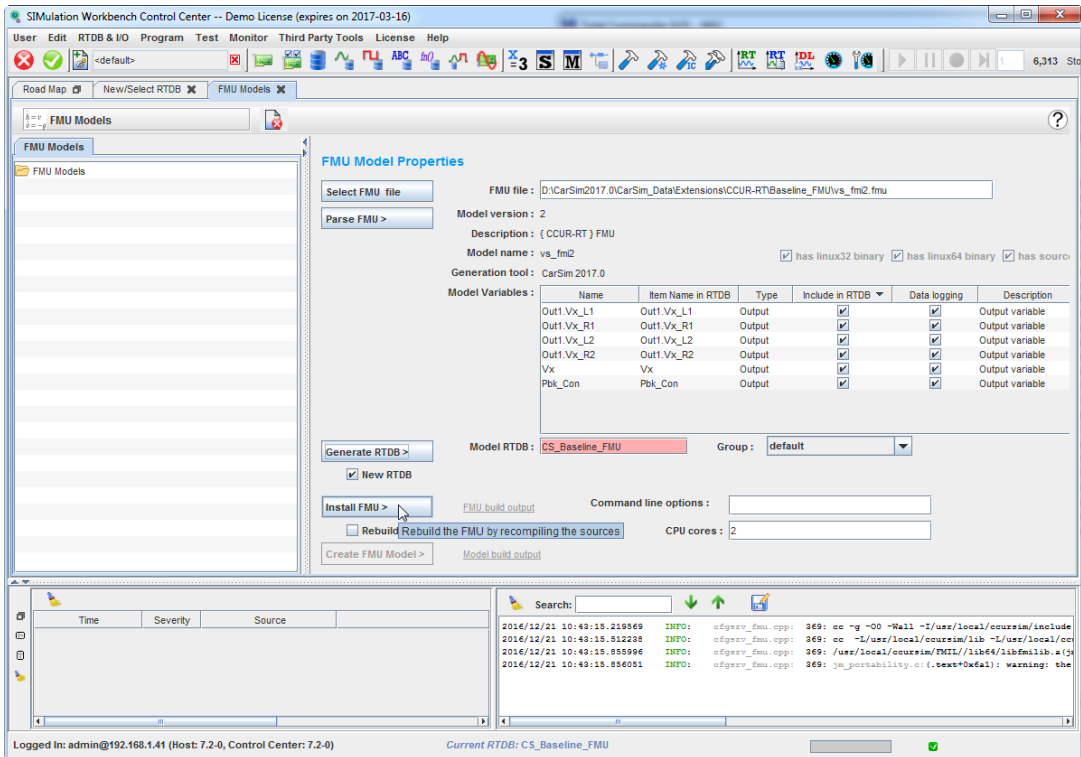
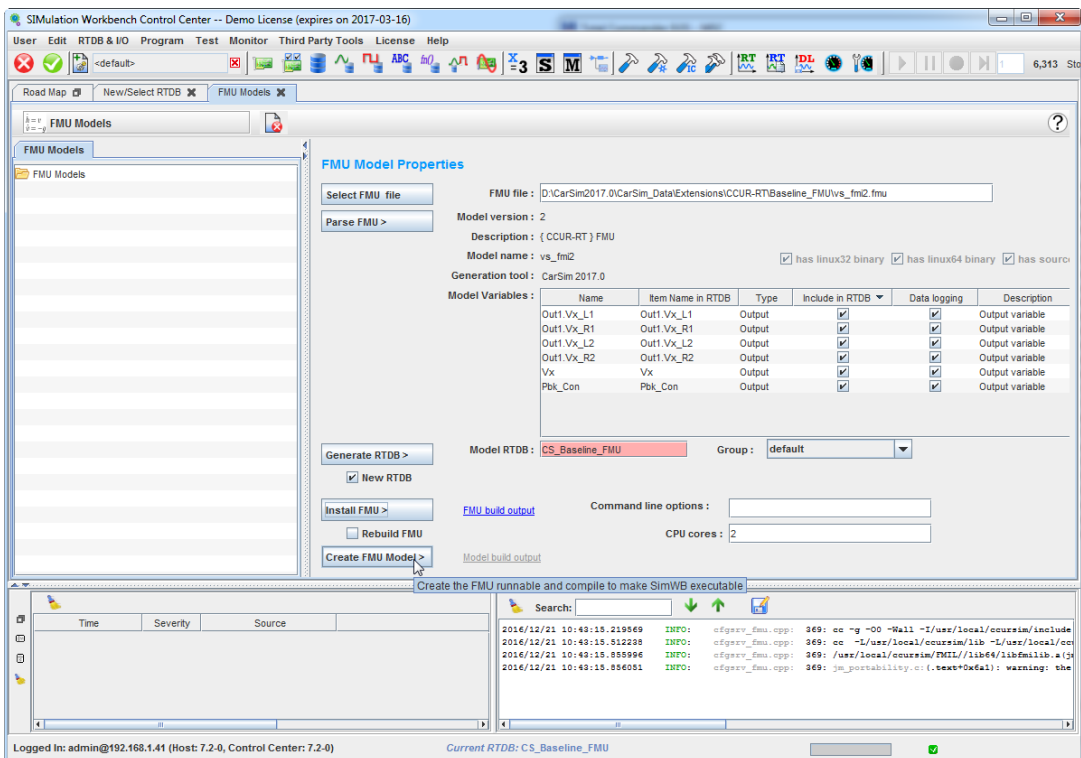
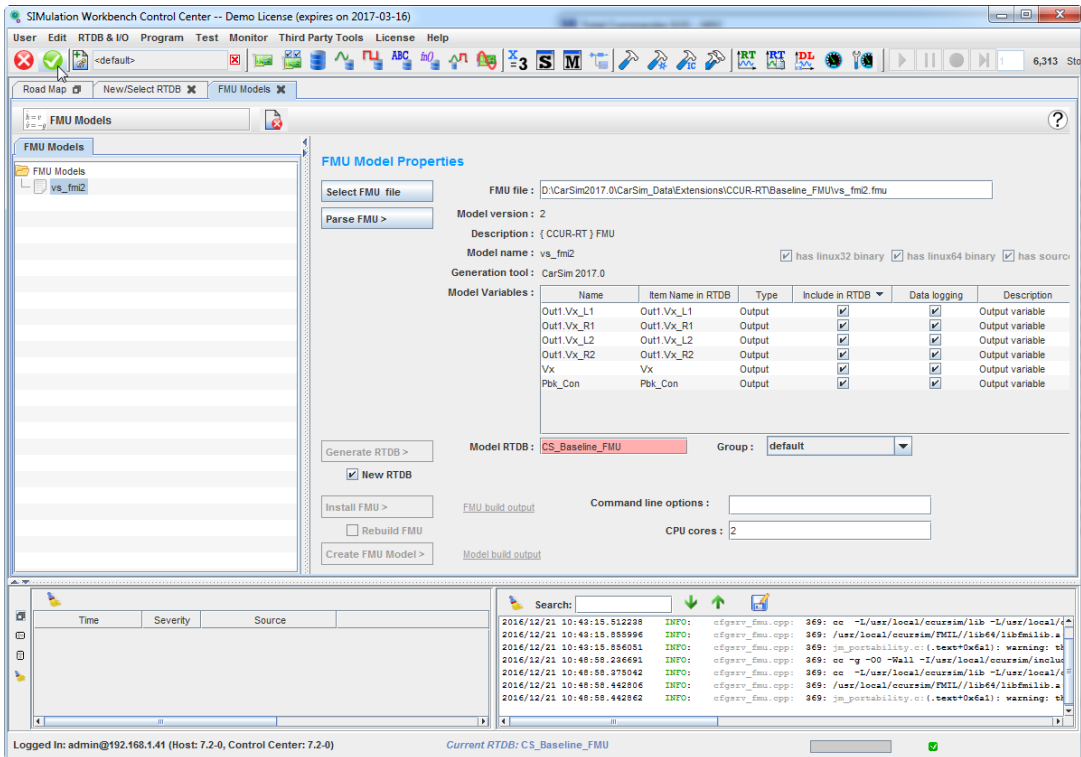

Figure 25. Simulation Workbench Control Center, Install FMU
Figure 26. Simulation Workbench Control Center, create FMU Model.
Figure 27. Simulation Workbench Control Center, after creating FMU model.
- Click the **Install FMU** button (Figure 25). Then, click **Create FMU Model** button (Figure 26). Save the model by clicking the green check icon on the top left corner (Figure 27).